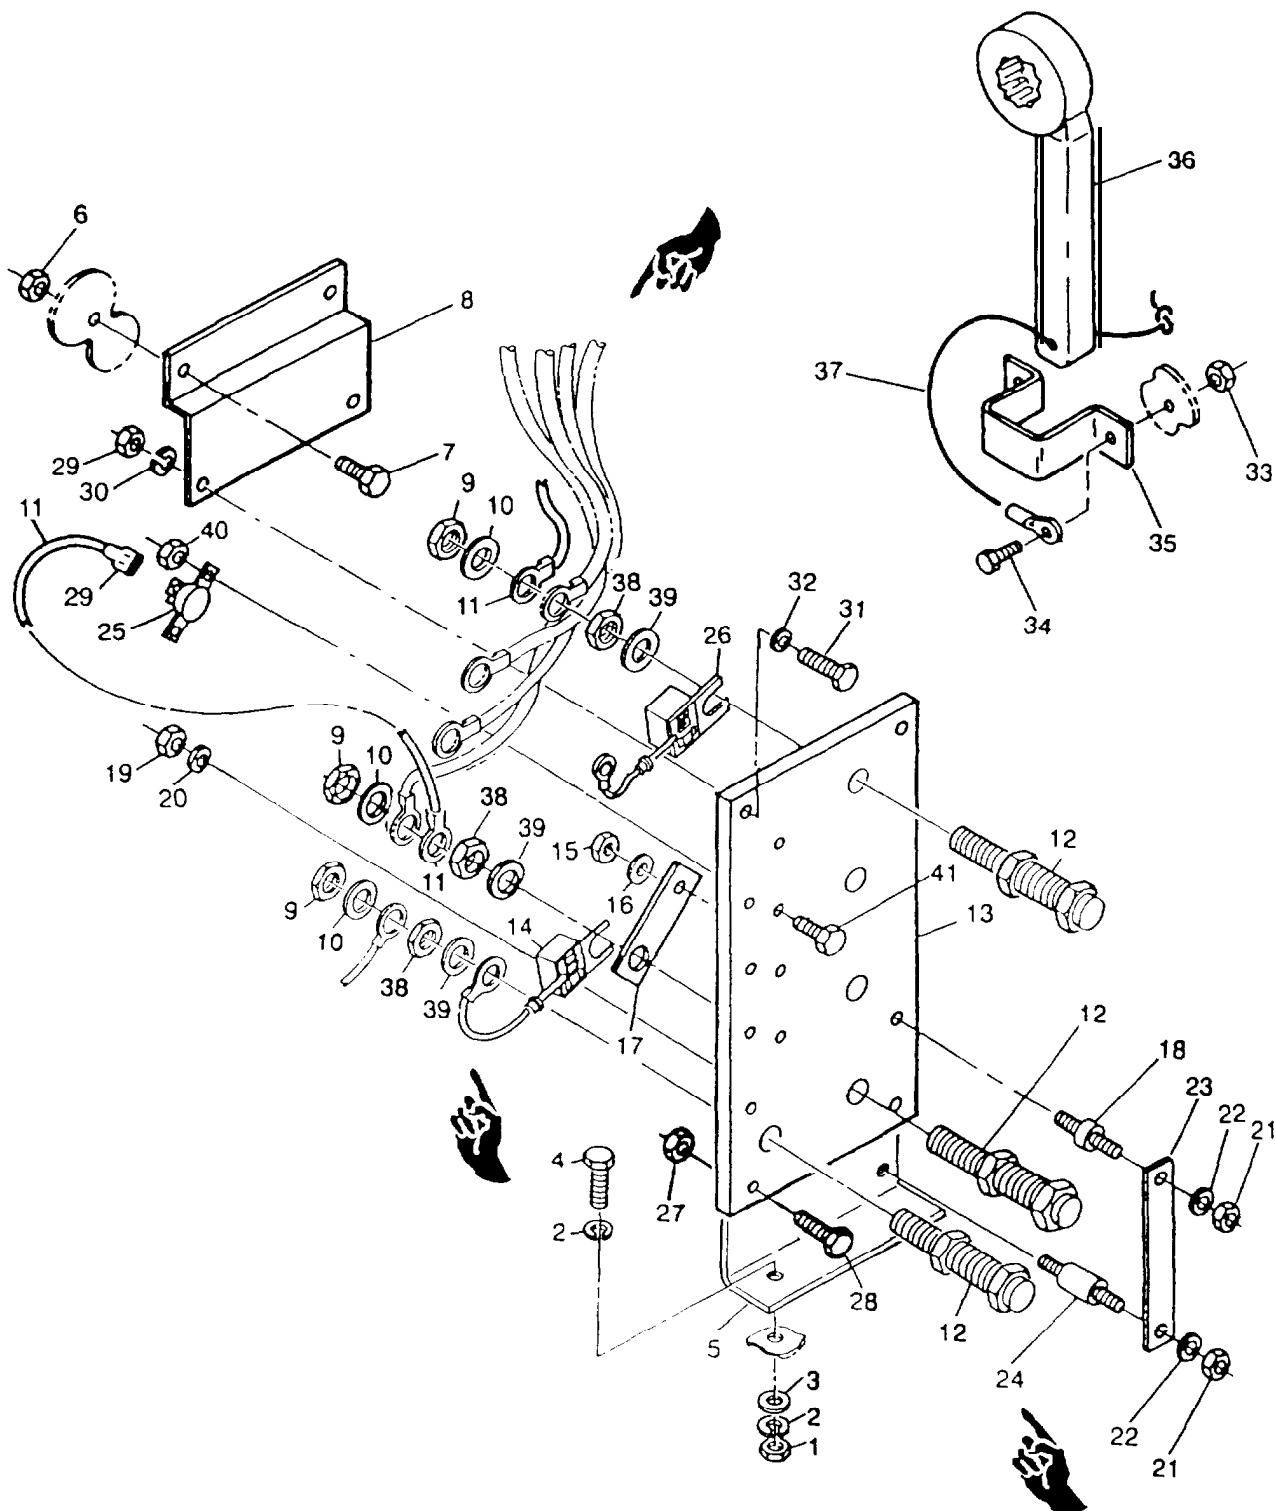

FIGURE 2-26. Load Output Terminal Board Assembly
- d. Remove nuts (1, FIGURE 2-26), lockwashers (2), washers (3), and bolts (4) securing ground plane bracket (5) to generator set.
- e. Remove nuts (6) and bolts (7) securing load terminal board assembly mounting bracket (8) to generator set.
- f. Remove nuts (9) and copper washers (10). Tag and disconnect main power leads and varistor leads (11) from load terminals (12).
- g. Remove ground plane bracket (5) and terminal board (13) from generator set as an assembly.
- h. Remove load terminals (12) from terminal board (13), paragraph 2-98.1.
- i. Remove EMI filter (14) positioned between LO and GND terminals (12).
- j. Remove nut (15), washer (16), and bus bar (17) from standoff (18).
- k. Remove nuts (19) and (21), washers (20) and (22), ground bar (23), and standoffs (18) and (24) from terminal board (13).
- l. Disconnect varistor leads (11) from varistors (25) and remove leads from assembly.
- m. Remove varistors (25) from load terminal board assembly, paragraph 2-99.1.
- n. Remove EMI filters (26) positioned between load terminals (12) and varistors (25).
- a. Tie cord (37, FIGURE 2-26) to wrench (36). Install wrench (36) and bracket (35) in generator set with bolts (34) and nuts (33).
- c. Position EMI filters (26) between varistors (25) and L1, L2, and L3 load terminals (12) mounting holes.
- d. Install varistors (25), paragraph 2-99.3.
(22) and nuts (19) and (21).
- f. Install bus bar (17) on standoff (18) with washer (16) and nut (15).
- h. Install load terminals (12), paragraph 2-98.3.
- i. Install mounting bracket (8) on terminal board assembly with bolts (31), washers (32), lockwashers
- j. Connect varistor electrical leads (11) to varistors (25).
- e Remove nuts (38, FIGURE 2-26), copper washers (39), and load terminals (12) from load output terminal board assembly.
- a Install load output terminals (12, FIGURE 2-26) on load output terminal board assembly with copper washers (39) and nuts (38).
- d Tag and disconnect varistor leads, (11, FIGURE 2-26) from varistors (25).
- e Remove nuts (40), bolts (41), and varistors (25) from load output terminal board assembly
- a. Install varistors (25, FIGURE 2-26). on load output terminal board assembly with bolts (41) and nuts (40).
- b. Connect varistor leads (11) to varistors (25) and remove tags